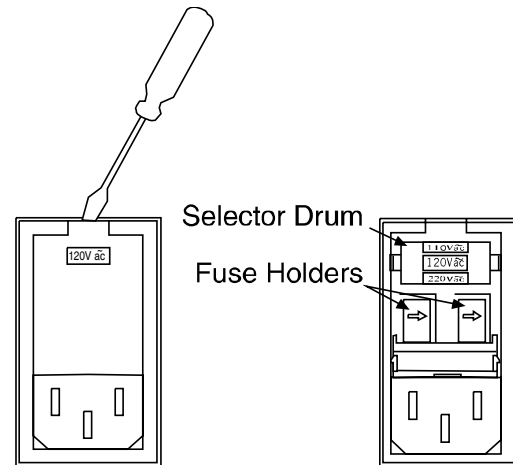

Figure 25. Power Module
2. As shown in Figure 25, place the flat side of a flat bladed screwdriver parallel to the back of the Controller and behind the small tab at the top of the power module, and twist the screwdriver slowly but firmly to pop the module open.